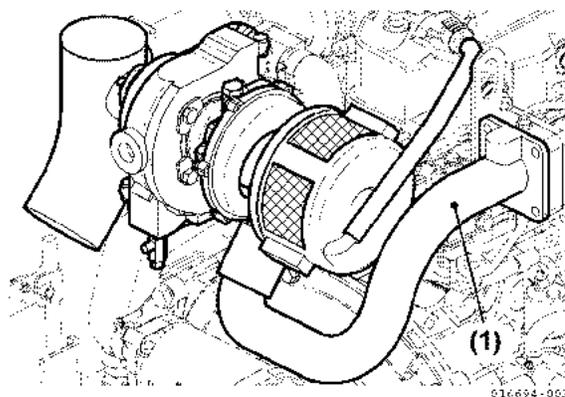
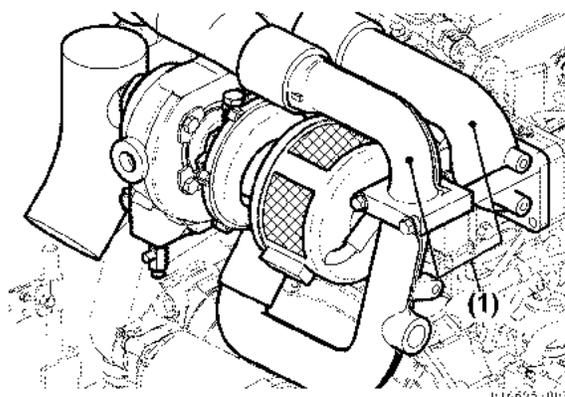

Figure 9-3
Figure 9-4
1. Remove intake pipe for 4JH4-TE (Figure 9-3, (1)) and intake pipes (turbine, intercooler, intake manifold) for 4JH4-HTE (Figure 9-4, (1)).